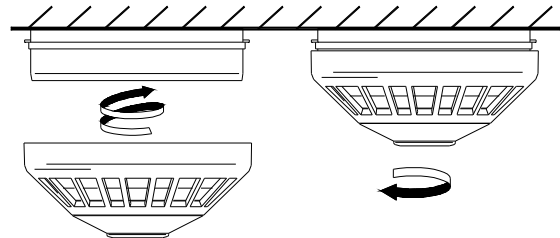

Figure 3
- 2.1 Detach the detector from its base by twisting anticlockwise and gently pulling apart (Figure 3).
- 2.5 The detector can now be installed onto its base. To do this push the counter head up into the base and turn anticlockwise until the tabs engage into position and then turn clockwise to lock (See Figure 3). Power can then be re-applied.